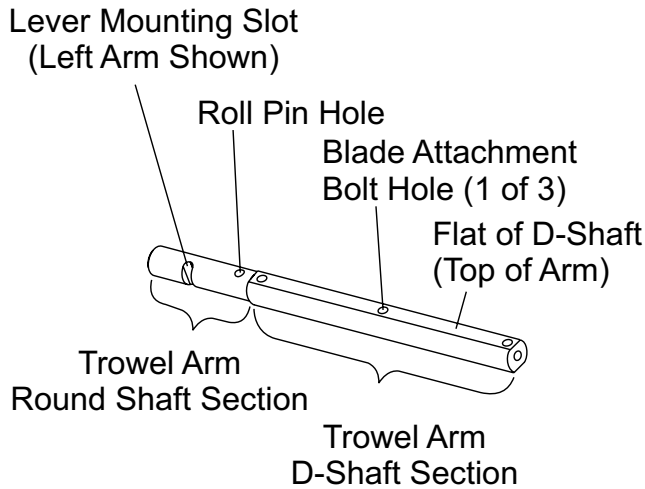
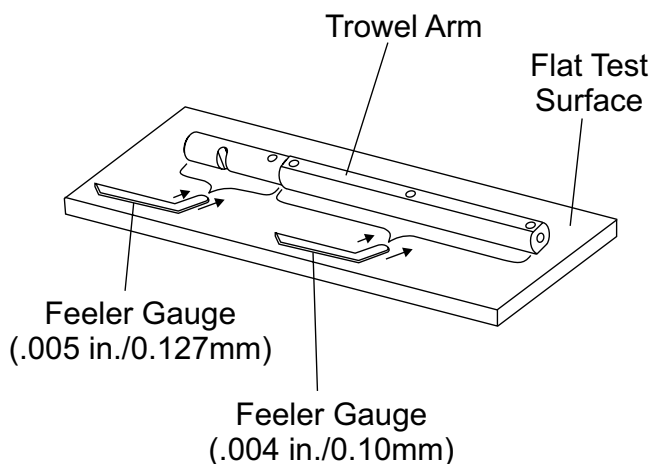

Figure 42. Trowel Arm
Figure 43. Checking Trowel Arm Flatness
Trowel arms can be damaged by rough handling, (such as dropping the trowel on the pad), or by striking exposed plumbing, forms, or rebar while in operation. A bent trowel arm will not allow the trowel to operate in a smooth fluid rotation. If bent trowel arms are suspect, check for flatness as follows, refer to Figure 42 and Figure 43:
2. Check each of the six sides of the trowel arm (hex section). A feeler gauge of .004" (0.10 mm) should not pass between the flat of the trowel arm and the test surface along its length on the test surface. (Figure 43) .
3. Attach the blade tie-downs to the far side of the Z-Clip brackets with tie-down knobs as shown in figure 42.